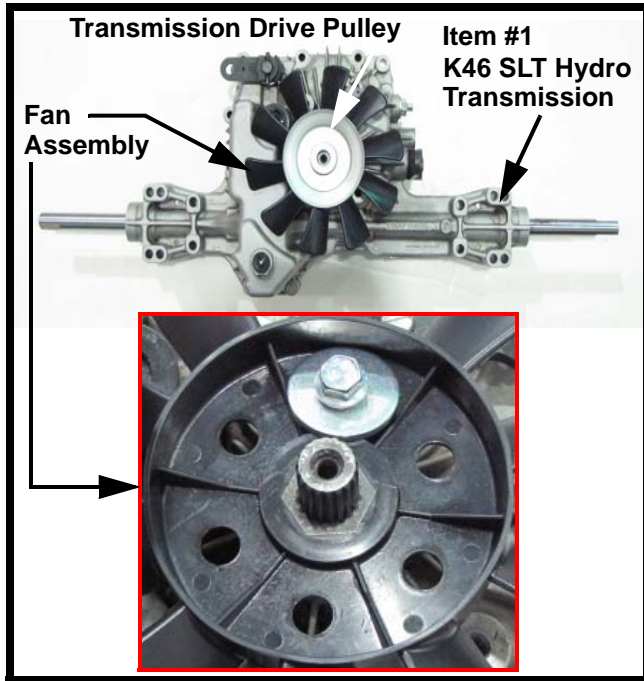

FIGURE 2
3. Remove the hex screw, lock washer and flat washer from the hole in the fan assembly on the K46 SLT Hydro Transmission. See Figure 2.